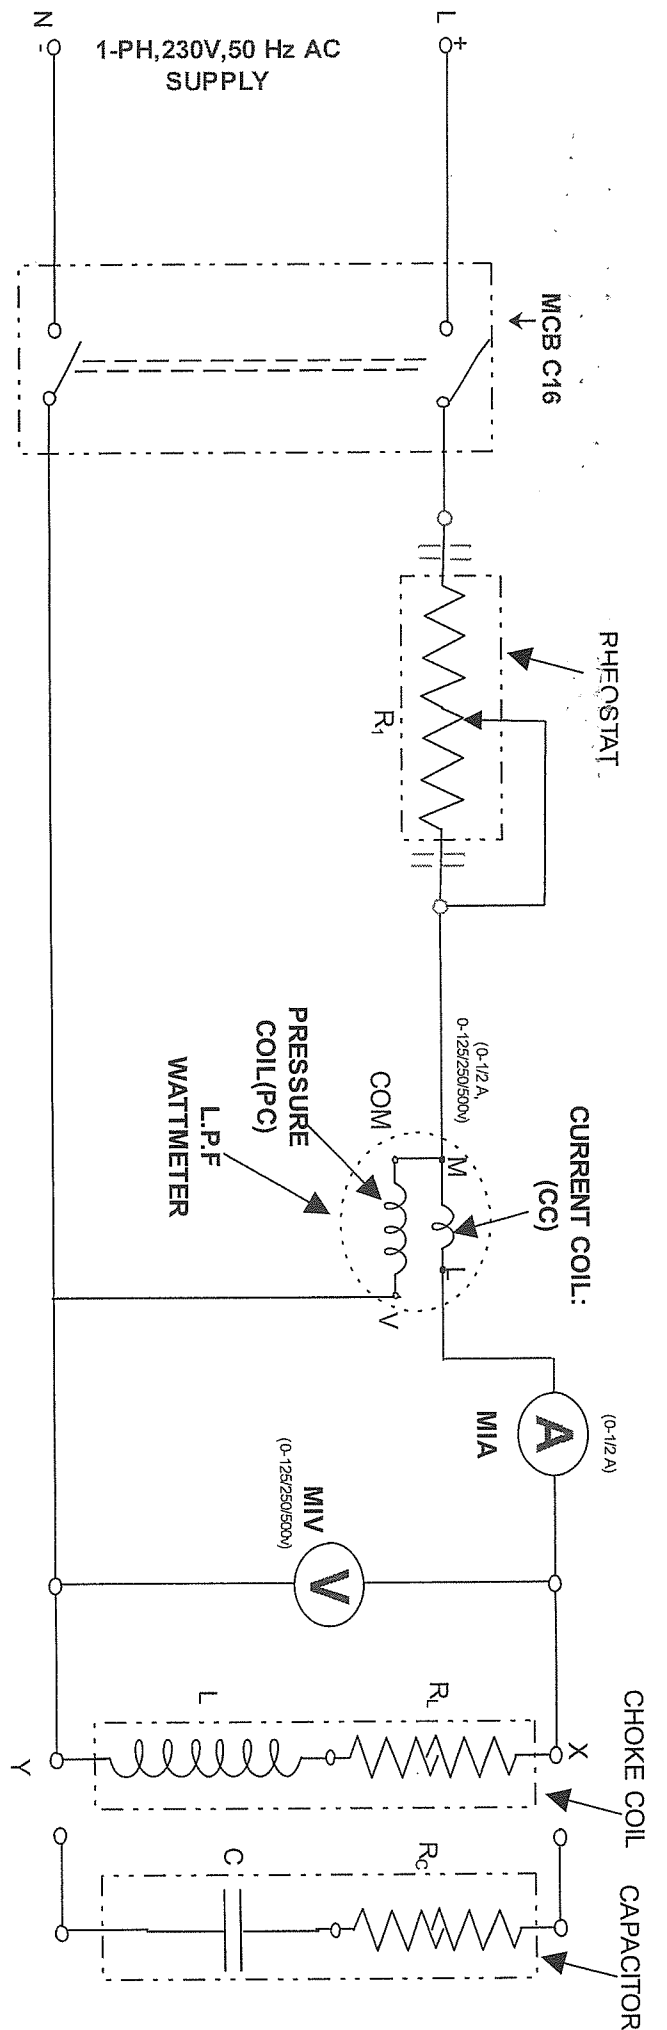

Fig.3.1 Circuit Diagram For Study of R-L Series Circuit
1) Connect the choke coil as shown in the Fig.3.1.
1) Replace the choke coil of Fig.3.1 by a capacitor in between the points X & Y and repeat the procedure (2) above. Complete the DATA SHEET to be prepared by you as shown in SAMPLE DATA SHEET